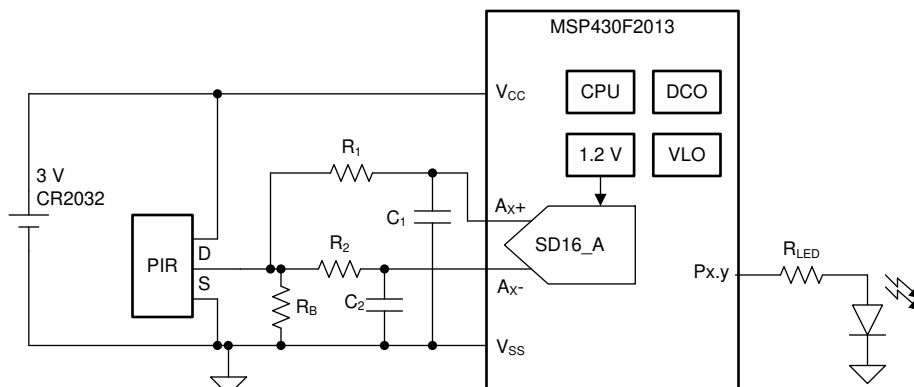

Figure 5-2. Anti-Aliasing Filters Example
The frequency content of the input signal can repeat itself around multiples of the ADC sampling rate - the duplicates are aliases of the original signal. If the anti-aliasing filters are missing, these aliases can increase noise in the digital output because their frequency exceeds the Nyquist rate. Remember that the sampling rate is actually the modulation frequency, so the recommended cut-off frequency of the anti-aliasing filters is typically 100 times less than the modulation frequency. Typically, the anti-aliasing filters are implemented using external first- or second-order resistor-capacitor (RC) filters that are connected to each differential input. Figure 5-2 shows how anti-aliasing filters are connected to the differential ADC inputs in a PIR motion detector design. To learn more, watch the Aliasing and Anti-Aliasing Filters training video.